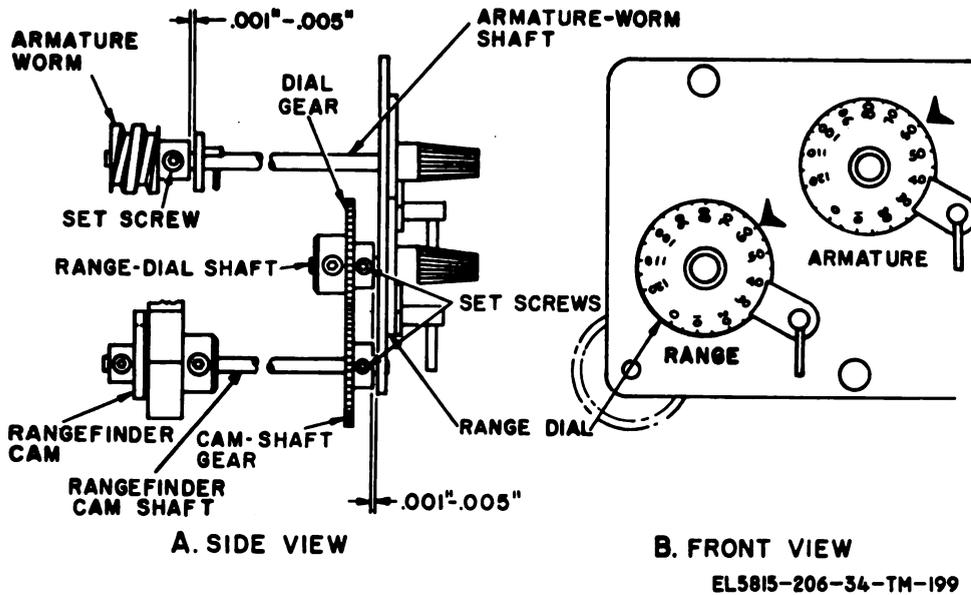
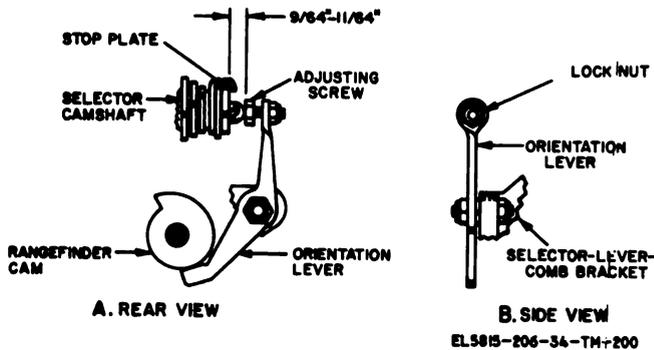

Figure 3-127. Rangefinder shaft adjustment.
Figure 3-128. Orientation lever adjustment requirements (TT-4B/TG, TT-4C/TG, TT-335/TG, TT-537/G, TT-698A/TG, and TT-698B/TG).
(1) There should be a 0.001- to 0.005-inch end play in the range-dial shaft, rangefinder cam shaft, and the armature-worm shaft (A, fig. 3-127).
(2) The RANGE dial should be set at 60 (B, fig. 3-127) when the high part of the rangefinder cam is against the lower arm of the orientation lever (A, fig. 3-128).
a. Requirement. There should be a 9/64- to 11/64-inch clearance between the stop plate and the adjusting screw in the orientation lever when the lever is held against the midpoint of the rangefinder cam (A, fig. 3-128).
b. Adjustment. Loosen the locknut (B, fig. 3-128); hold the orientation lever against the rangefinder cam; turn the adjusting screw in or out to meet the requirement; and tighten the locknut.